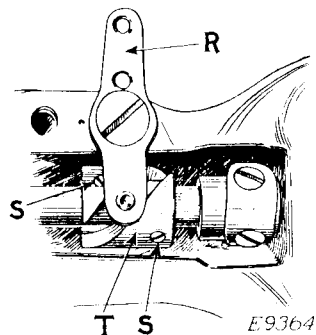

Fig. 5. Adjustment of Thread Pull-off Lever
The thread pull-off lever (R, Fig.5) should pull off just enough thread to make a smooth, flat stitch. To adjust the pull-
off, see that the stitch regulator and the thread measuring device are set at the same figure as instructed on page 3, then loosen the two set screws (SS, Fig.5). Turn cam (T, Fig.5) so that the upper end of the pull-off lever (R) moves further toward the needle bar for a looser stitch, or further away from the needle bar for a tighter stitch. When the cam is correctly set, tighten the two screws (SS).